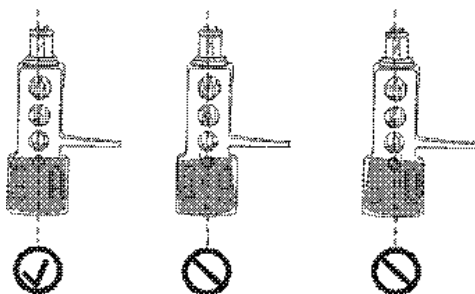

Fig. 9: Adjusting the azimuth
- 5 For optimized pick-up the overhang – the distance between the stylus and the axle of the turntable – should be set to 15 mm. Make sure that the system is centered (correct azimuth) and the screws are fixed (Fig. 9).